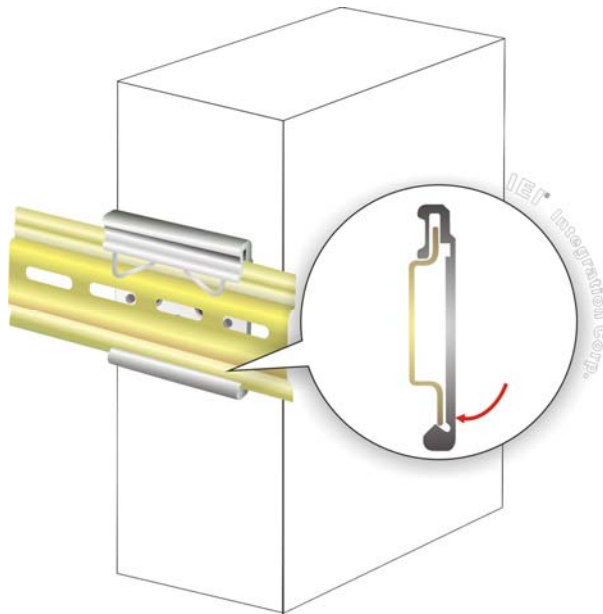

Figure 3-12: Mounting the System
Step 3: Push the system toward the DIN rail until the mounting bracket clips into place firmly (**Figure 3-12**).